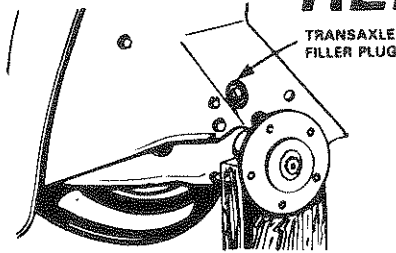

FIGURE 37
- Block up rear axle (Fig. 37) securely or use a tractor jack.
- Remove filler plug (Fig. 37) from transaxle. Oil level must be even with plug threads. See your Sears Service Center if additional oil is required. Replace filler plug.